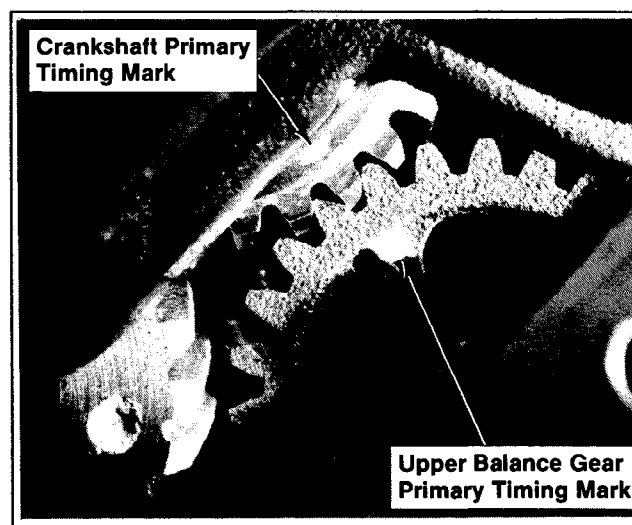

Figure 12-31. Crankshaft Gear/Upper Balance Gear Alignment.
- The primary timing mark on crankshaft should align with the primary timing mark on upper balance gear. Refer to Figure 12-31.